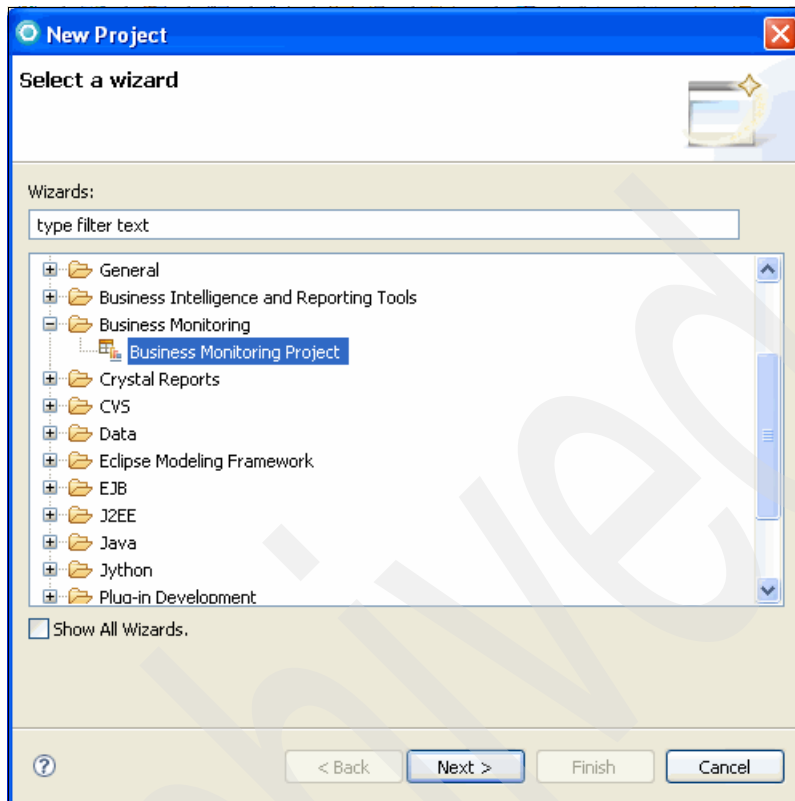

Figure 9-38 Creating a new Business Monitoring Project
2. In the New Project – Select a wizard window (Figure 9-38 on page 643), expand **Business Monitoring** and select **Business Monitoring Project**. Click **Next**.